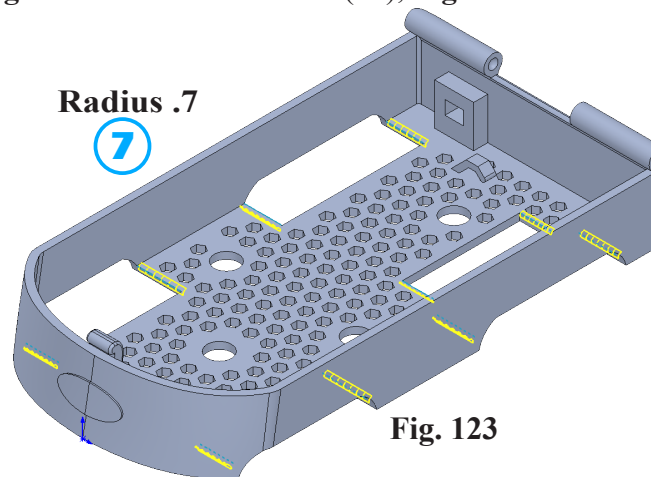

Fig. 123
⑦ **Radius**  .7
click front and rear edges gear cut and wheel wells (10), Fig. 123